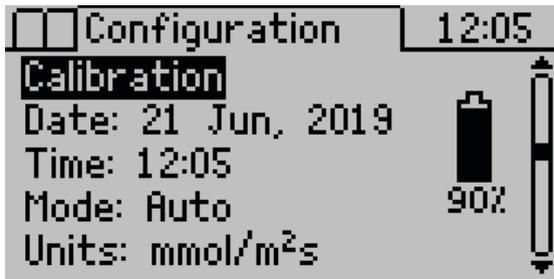

Figure 44 Configuration tab
5. Press **MENU** to navigate to the Configuration tab (Figure 44).